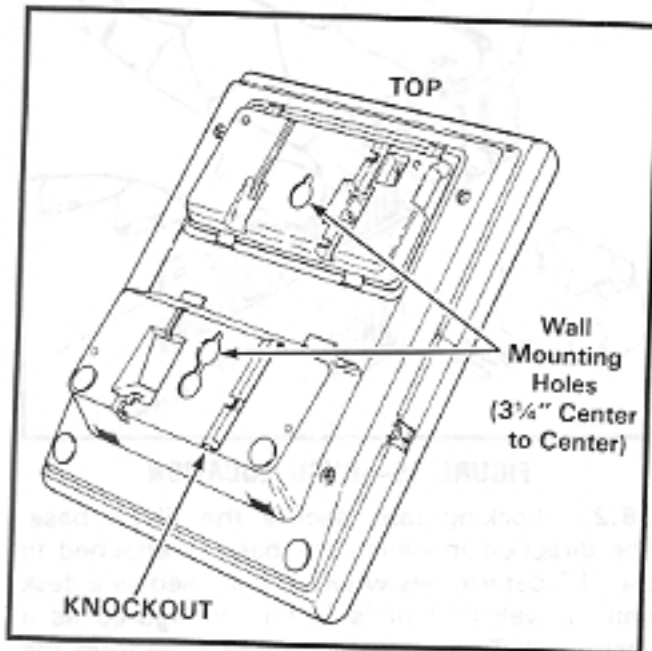

FIGURE 21—EKT MOUNTING HOLES
- 3) Secure the unit to the desired wall site. (Use dimensions shown in Figure 21 to position the unit.)